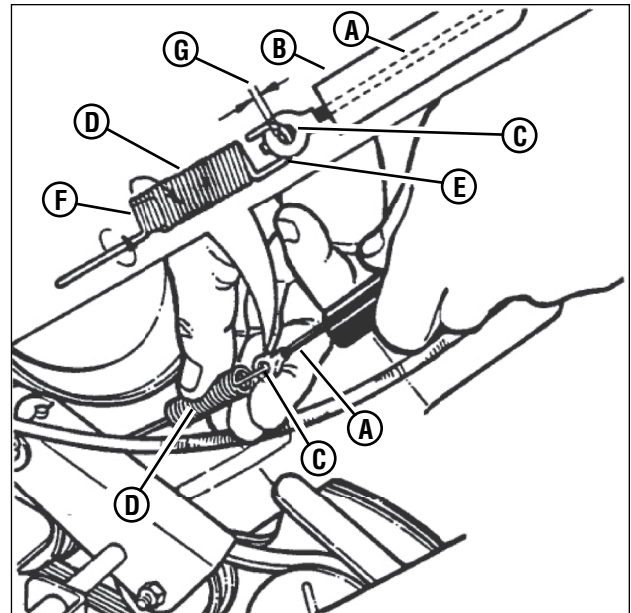

Figure 24: Wheel drive control adjustment
- The wheel drive control is properly adjusted when there is 1/16" to 1/8" clearance (**G**, **Figure 24**) between the inside of the spring hook (**E**) and the inside of the clutch cable eye (**C**) with the wheel drive control released.